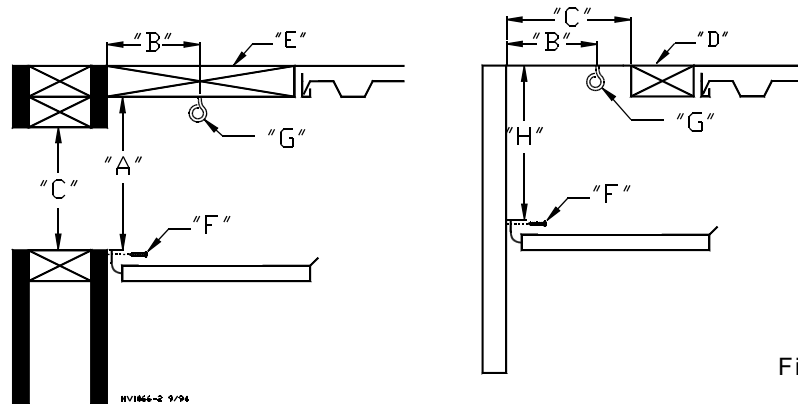

Figure 1.
- Determine if the inlet slot is to be in the ceiling (for attic air) or on the side wall (for outside air). Figure 1 provides information for attic inlet installations and side wall inlet installations.
Legend: Figure 1
The screw hooks should be as close as possible (without interfering) to the lip of the baffle sections when they are closed. See Figure 1 & 2.